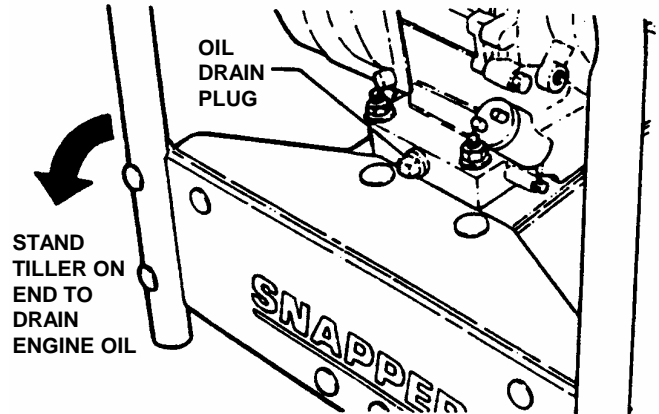

FIGURE 8
3.2.1 ENGINE SERVICE: Refer to the engine owner's manual for details. Engine oil is drained by removing front filler plug and standing Tiller on end. See Figure 8.